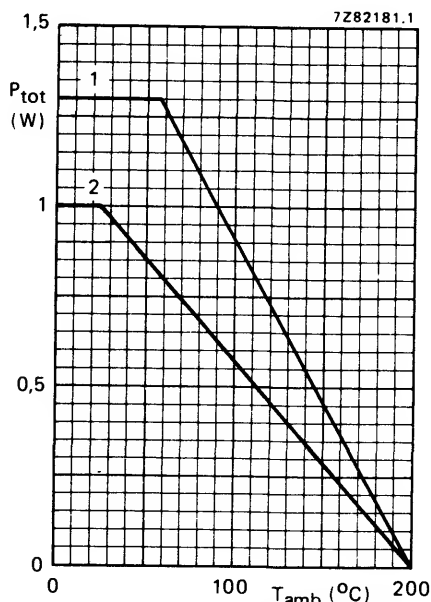

Fig. 2 Maximum permissible power dissipation versus ambient temperature.
#### Mounting methods (see Figs 2 and 3)
1. To tie-points (lead length = 4 mm in Fig. 2).
2. Mounted on a printed-circuit board (with lead length of 10 mm in Fig. 2) and print copper area of  $1\text{ cm}^2$  per lead.